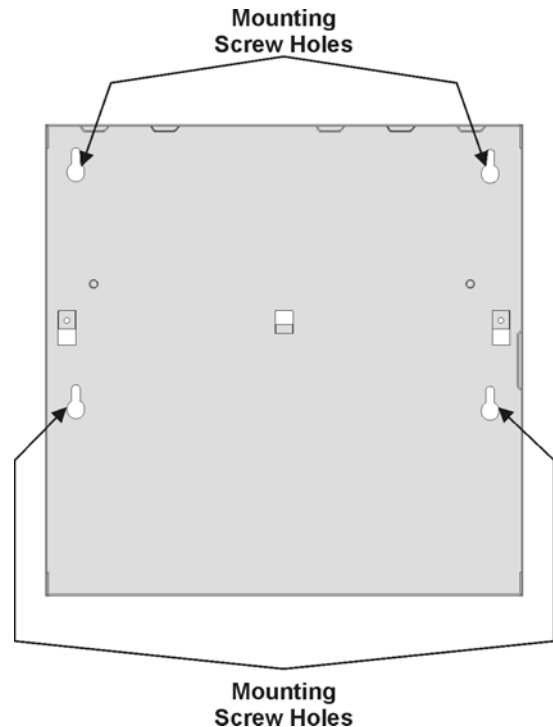

Figure 1: Cabinet Mounting
2. Mount cabinet as shown in Figure 1.